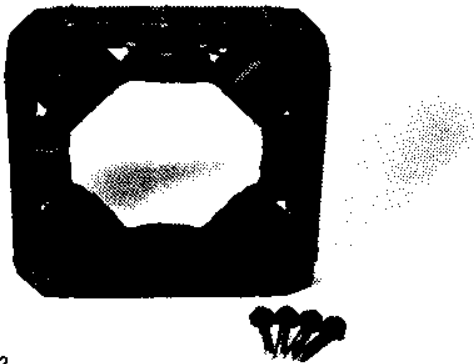

FIGURE 6-32
1. Clean dust and dirt from the stator winding. (Figure 6-32.) (See section 5.)